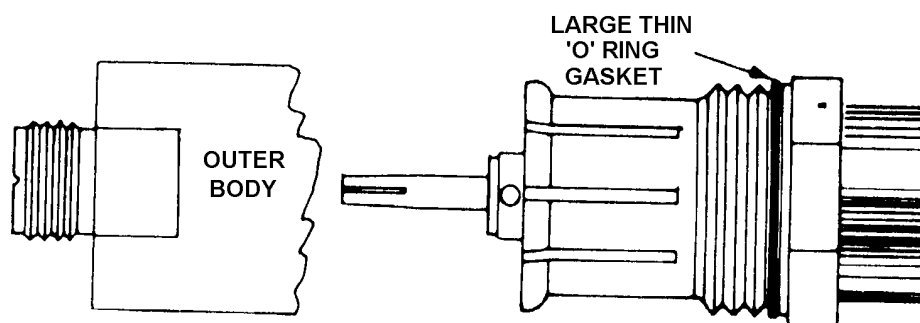

Figure 1.27 - Installing the Outer Body
- 8.9 Place the large thin O-ring in the gasket groove in the clamping nut (Figure 1.27) and coat the outer surface of the gasket lightly with silicone grease. Screw the outer body of the connector on to the clamping nut and tighten with spanners. Turn the outer body only; do not turn the clamping nut.